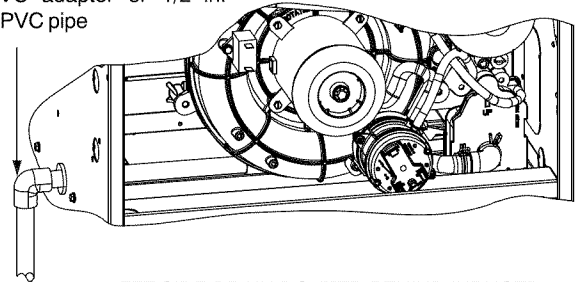

Fig. 17 - Drain Trap Connection and Routing (Appearance May Vary)
2. The Z-pipe is connected to the condensate trap and the outside of the furnace by modifying the formed rubber drain elbow as shown in Fig. 17.